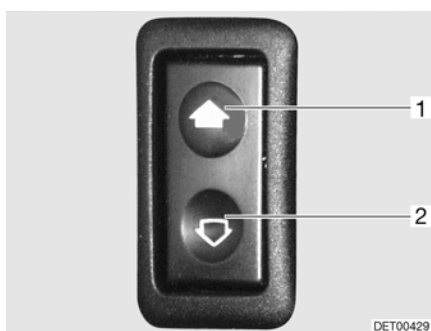

Fig. 45 Switch for electrical window winder
- Press the lower part (Fig. 45,2) of the switch.
- Press the upper part (Fig. 45,1) of the switch.